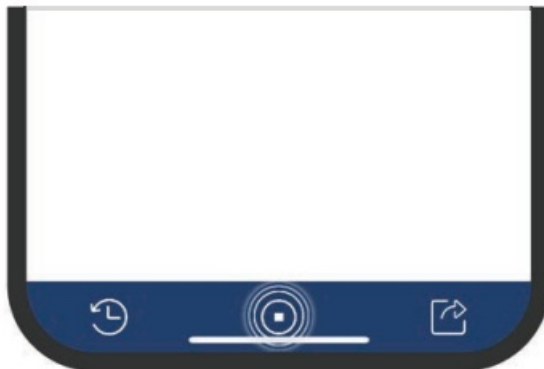

Figure 17
5. While in recording mode, the Stop icon will appear, indicating it can be pressed when you would like to end the recording. (Figure 17)